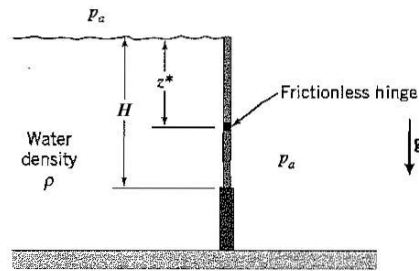

Figure P2.23
2.23 The gate shown in Figure P2.23 has a width W and a height H and it is pivoted on a frictionless hinge at a point z^* below the surface of the water. The top of the gate is level with the surface of the water. The water is of density ρ , and outside the tank the pressure is uniform everywhere and equal to the atmospheric pressure.